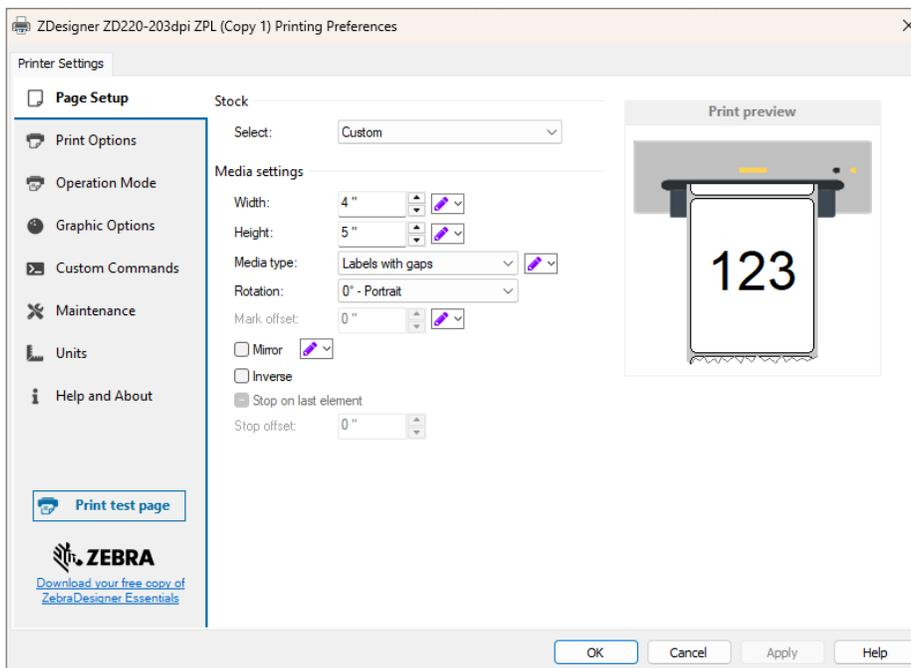

Fig. 180 – Zebra Printer settings
- 🔑 If using a Zebra Printer, be sure to set your printer preferences/printer properties so that the page width is four inches and the height is five inches, as shown in Fig. 180.